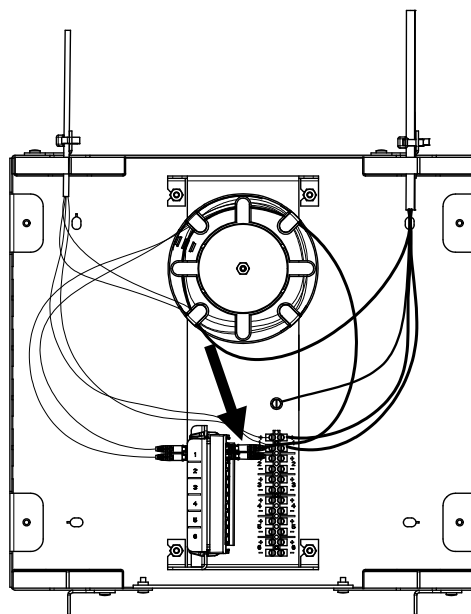

Figure 11
5. Clean and install the LC terminations into the adapter; see installation and cleaning instructions: TECP-96-194. Store excess fiber slack on the spool, as shown in **Figure 11**.